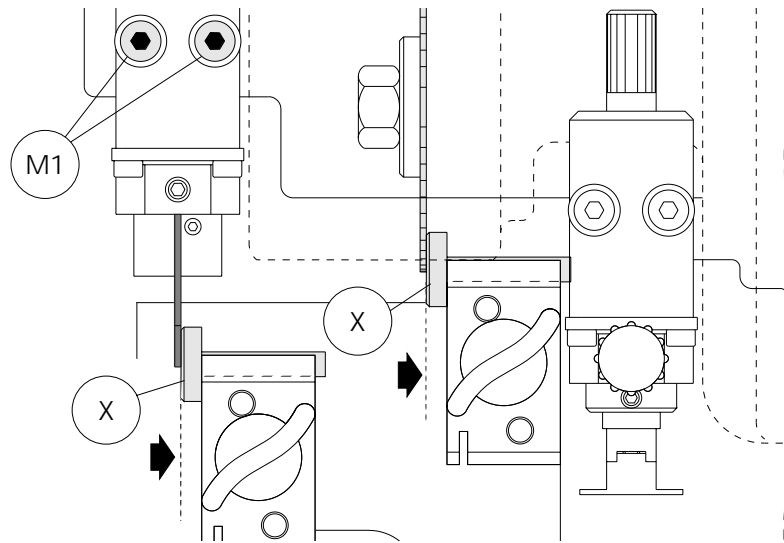

Fig. 8
Check that the setting tools (X) align correctly on the left hand side of cutter and tracer (see fig. 8).